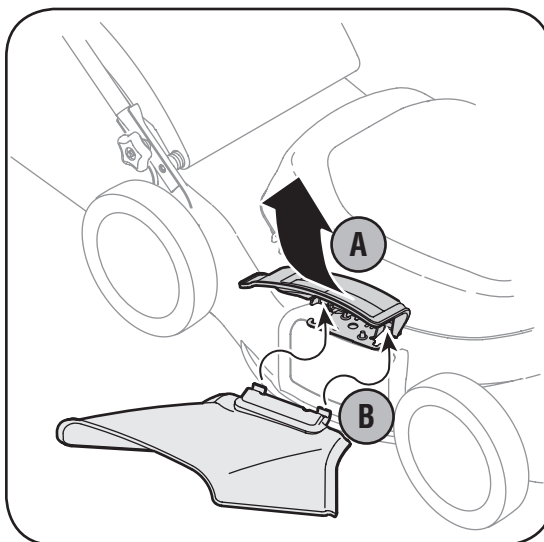

Figure 3-6: Converting to side discharge.
- b. Slide chute hooks under hinge pin on mulching plug assembly. Lower mulching plug. See Figure 3-6. Do not remove side mulching plug at any time, even when you are not mulching.